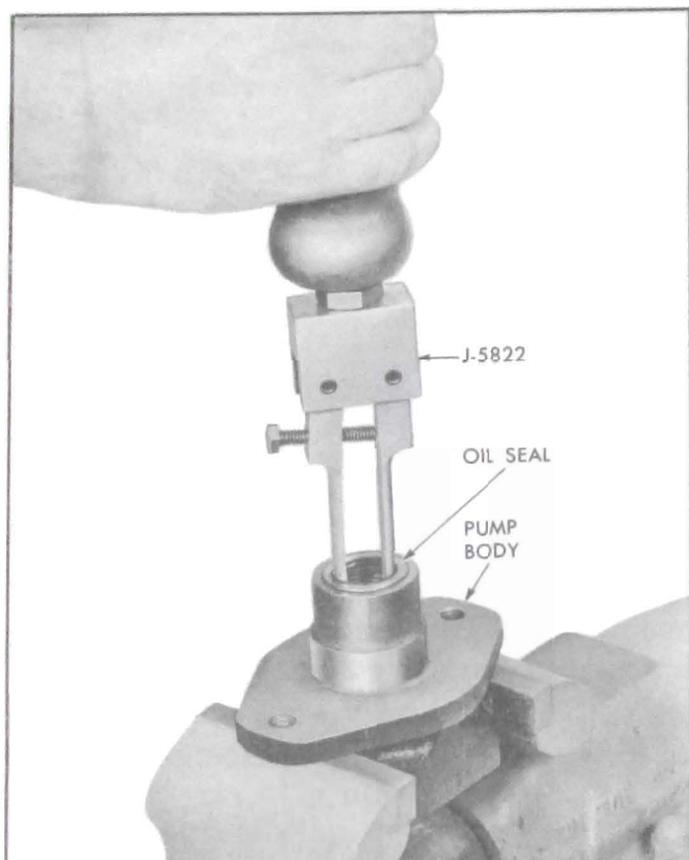
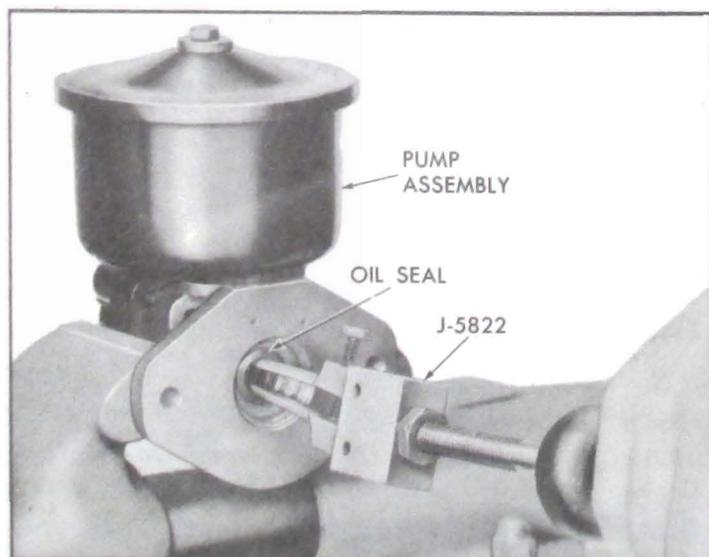

Figure 8-45—Removal of Drive Shaft Seal (Standard Pump)
Figure 8-46—Removal of Drive Shaft Seal (Air-Poise Pump)
6. Remove pump seal, using Remover J-5822 installed on suitable slide hammer. See figure 8-45 (standard pump) and figure 8-46 (Air Poise Pump).